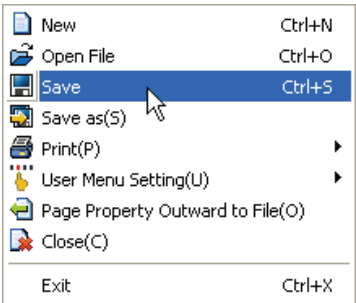

Figure 1-42
Method 1: Click **File (F) > Save** (Figure 1-42).